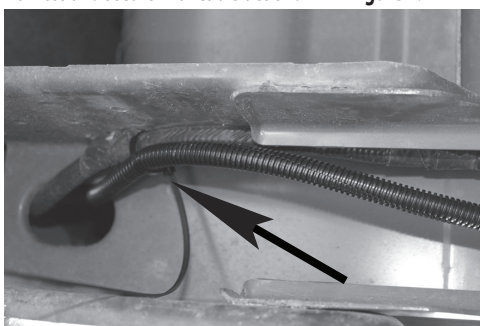

Figure 4
8. Route 2-pin connector containing the **Brown** and **Green** wires along rear of vehicle to passenger side along factory wire harness and secure with cable ties shown in **Figure 4**.